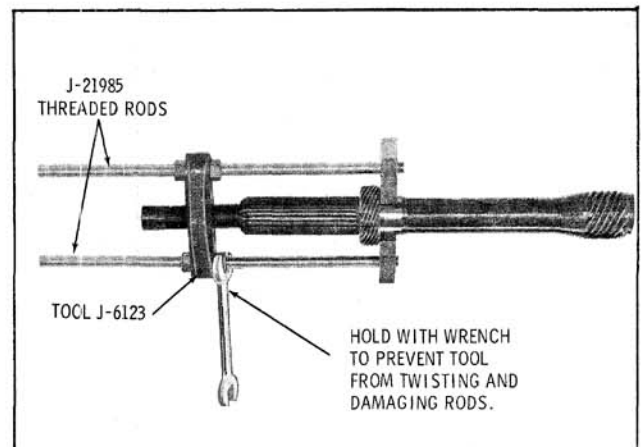

Fig. 7-59 Removing Speedometer Gear with J-6123
7. Remove speedometer gear (if any) and reverse gear. The speedometer gear may be removed using Tool J-6123 as shown in Fig. 7-59.